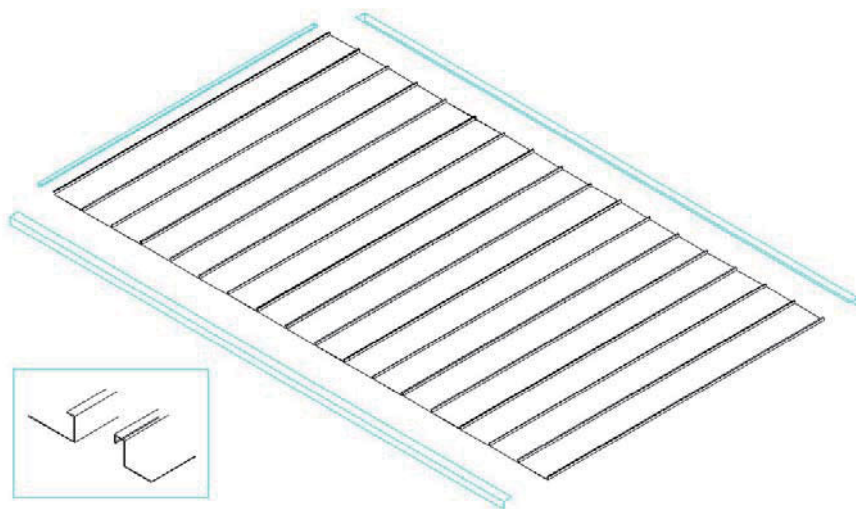

Fig. 2.8
4. Installate the roof cover ,connect one by one,then fix them on to the roof support beam with nails.And do some sealing with the transparent pastern shown in Fig.2.8